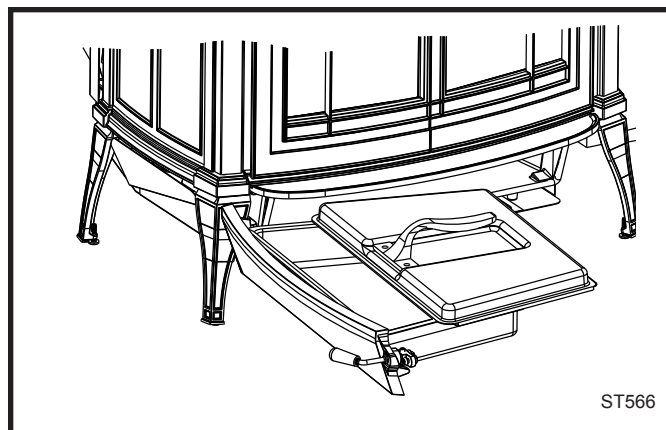

Fig. 41 Be sure the cover is securely attached before removing the ash pan.
- Slide the cover onto the pan, making sure it is securely closed. (Fig. 41)